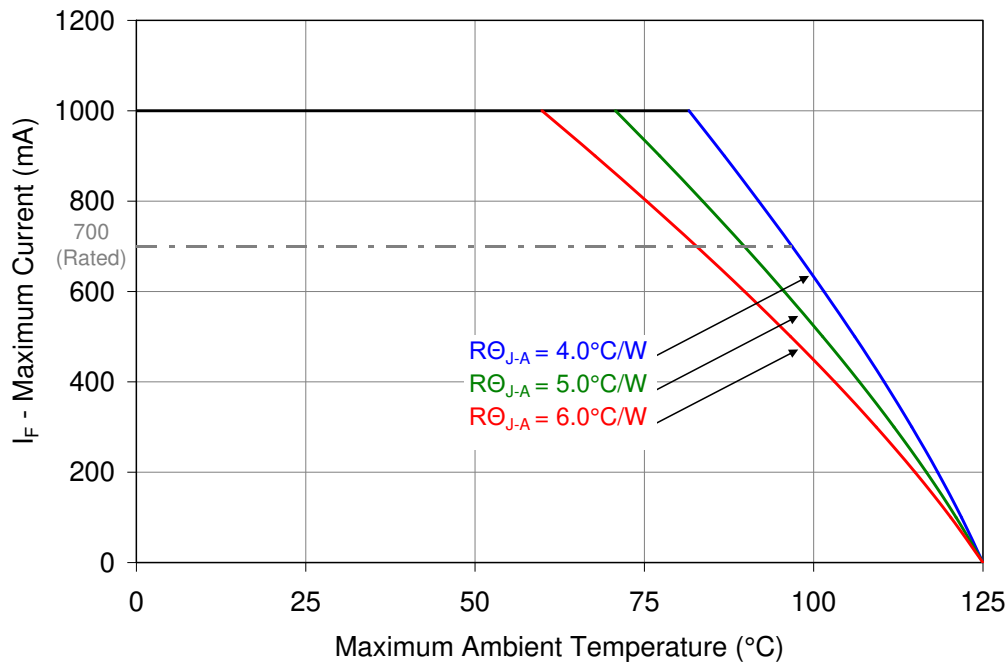

Figure 10: Maximum forward current vs. ambient temperature based on  $T_{j(\text{MAX})} = 125^\circ\text{C}$ .
- Maximum DC forward current (per die) is determined by the overall thermal resistance and ambient temperature. Follow the curves in Figure 10 for current derating.
Notes for Figure 10: